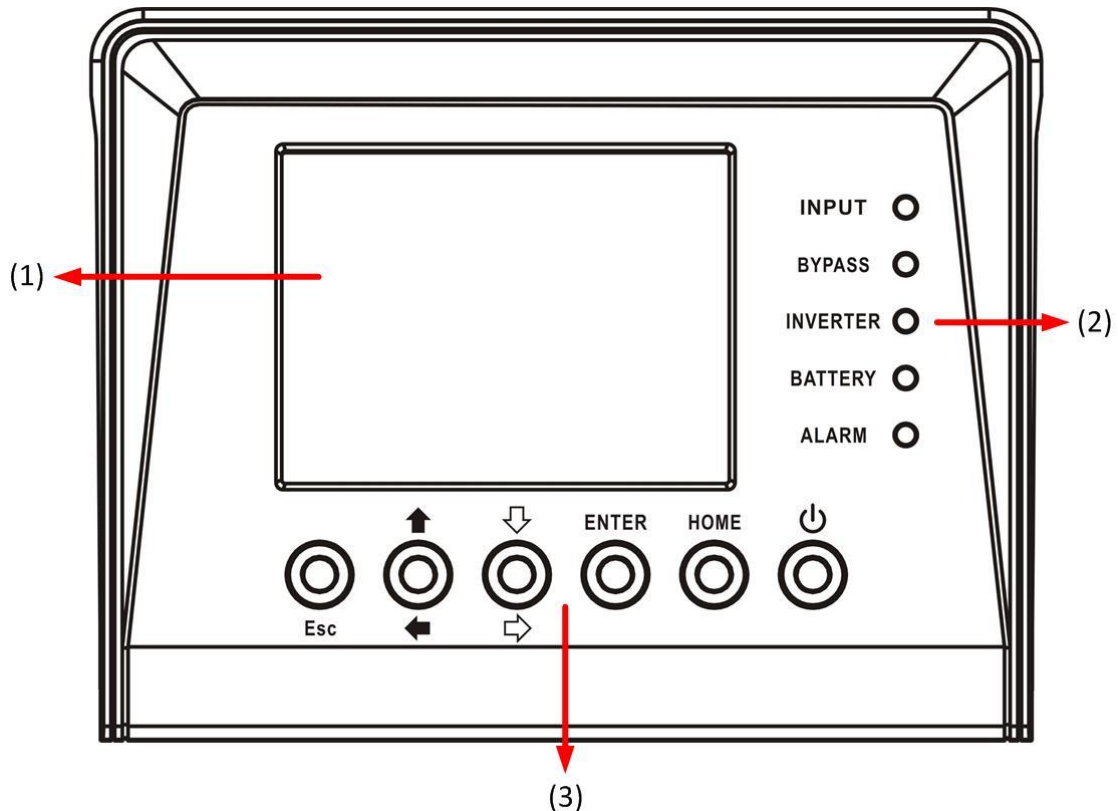

Figure 4-1 Control panel parts
This control panel and display description is located on the front door of the UPS. It is the USER control and monitoring of all measured parameters, UPS and battery status and alarms. The control panel and display description is divided into four functional areas: (1) LCD display, (2) LED indications, (3) Control keys, (4) Audio Alarm, as shown in Figure 4-1.